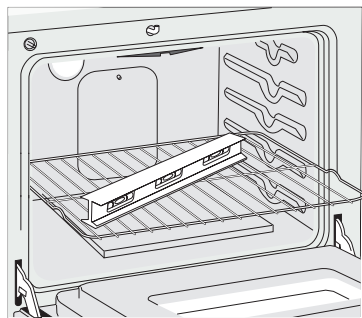
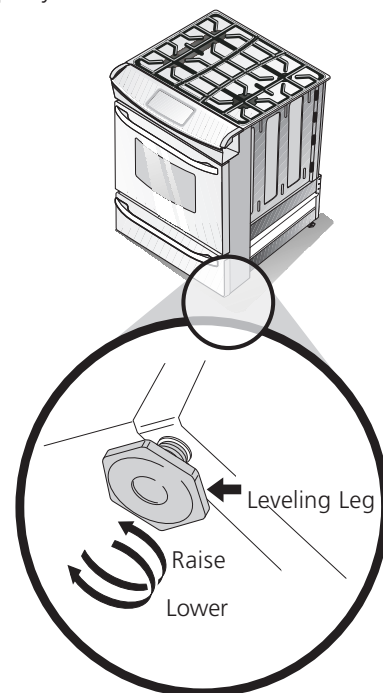

Figure 8
Figure 14
2. Place a level on the rack (see Figure 8). Take 2 readings with the level placed diagonally in one direction and then the other. Level the range, if necessary, by adjusting the 4 leg levelers with a wrench (see Figure 14).
4. Level range if necessary, by adjusting 4 leg levelers with wrench (Figure 14). A minimum clearance of 1/8" (0.8 cm) is required between the bottom of the range and the rear leg levelers to allow room for the anti-tip brackets.